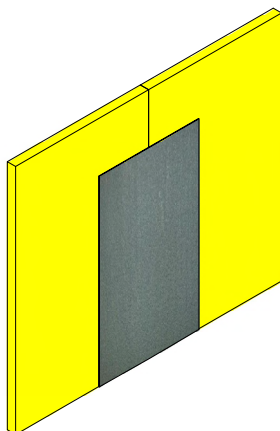

Figure 1
1. Mix Senershield-R/-RS/-VB per the product bulletin instructions. Apply a generous receiving coat to completely saturate the Sheathing Fabric over the joint and out 2 to 5 inches on each side. (See Figure 1)